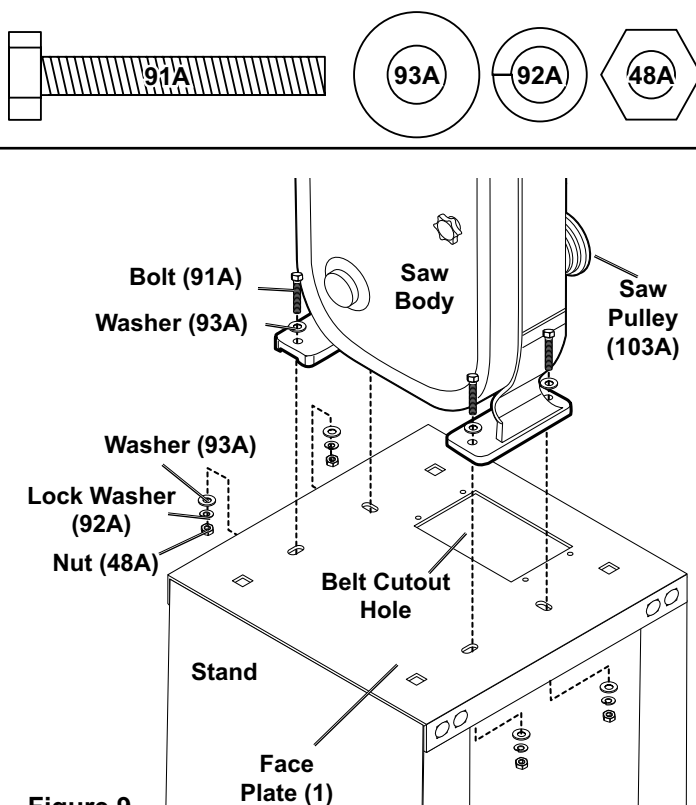

Figure 9
2. With at least one assistant, lower the Saw Body down on the Stand's Face Plate (1). Make sure that the holes in the Saw Body line up with the slots in the Stand and that the Pulley lines up over the belt cutout hole. See Figure 9.
1. The Saw Pulley (103A) comes pre-assembled but you need to attach it to the Saw Body Base (34A) which is inside the Saw Body (see Figure 9). To attach the Saw Pulley, you will temporarily remove a few parts from the assembly.